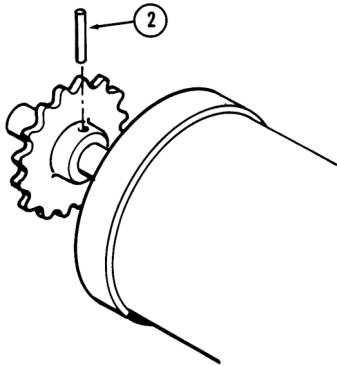

Figure 7
6. Re-align the door shaft and opener drive shaft sprockets and connecting drive chain. Secure the sprockets in place with their set screws. If no keyway exists in the door shaft, drill a 5/16" through the door sprocket and door shaft with the sprocket in its aligned position. Insert the 5/16" roller pin [2] through the sprocket and shaft to secure the sprocket in place. See **Figure 7**.